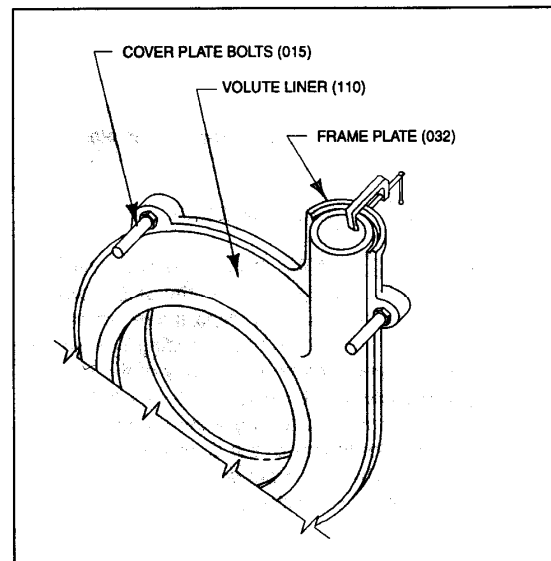
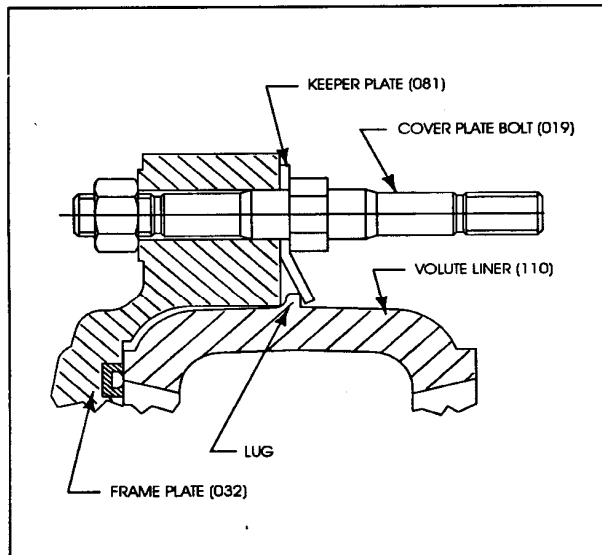

Figure 6-2 • Fitting Volute Liner and Throatbush
Figure 6-2a • Using Keeper Plate to Retain Volute
Make certain the volute frame seal has not shifted. To hold the volute liners temporarily in this position use a C-clamp. Clamp the volute liner discharge nozzle to the half flange of the frame plate as shown in Figure 6-2. For 150 EL pumps only reinstall (3) KEEPER PLATES (081) as shown in Figure 6-2a.